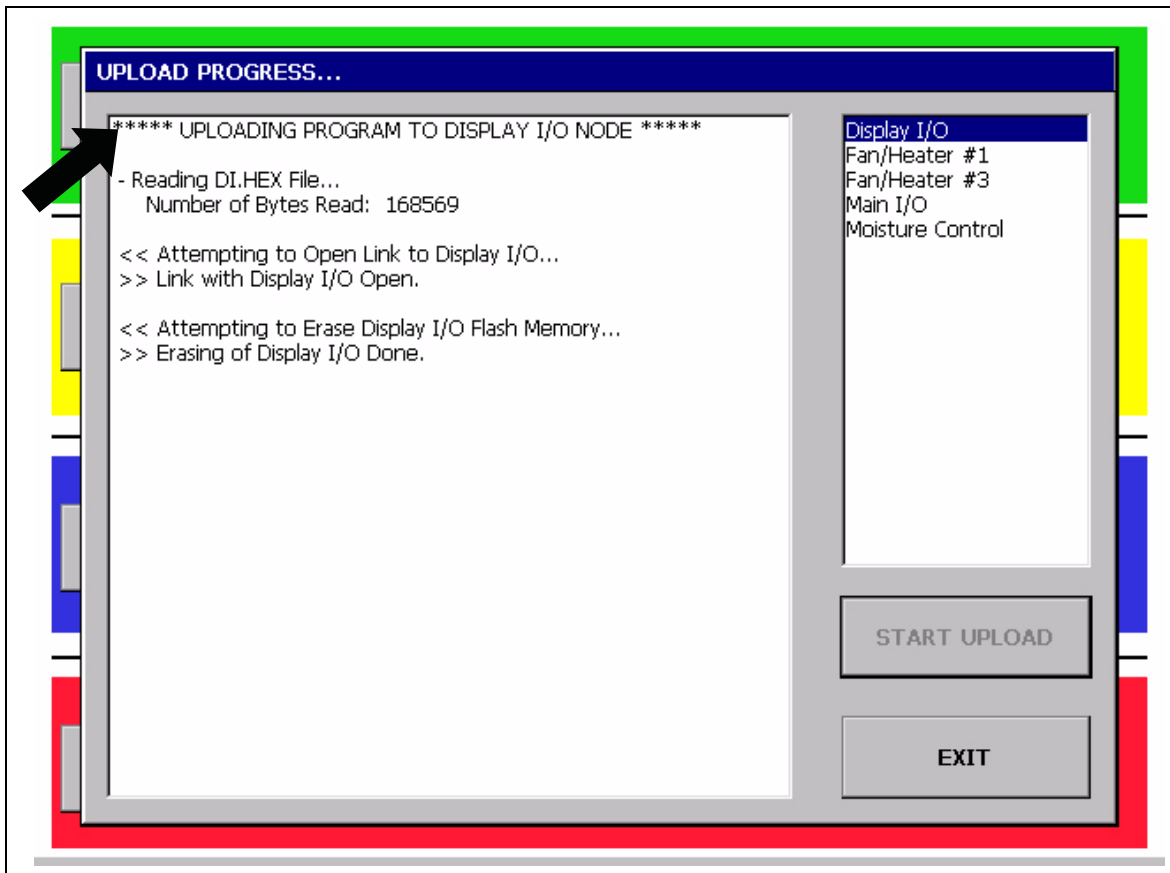

Figure 4H
10. When the “Upload Progress” screen appears, select the “Start Upload” button. (See Figure 4H.)
11. The Vision computer will now begin programming each of the network circuit boards on the dryer. The box on the right of the screen lists the network circuit boards detected in the scan. Each circuit board listed will have to be reprogrammed, so this may take a few minutes. File upload progress for the circuit board that is highlighted is displayed in the box on the left. (See Figure 4H.)